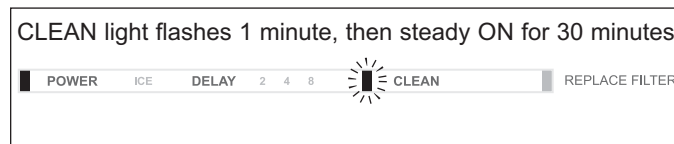
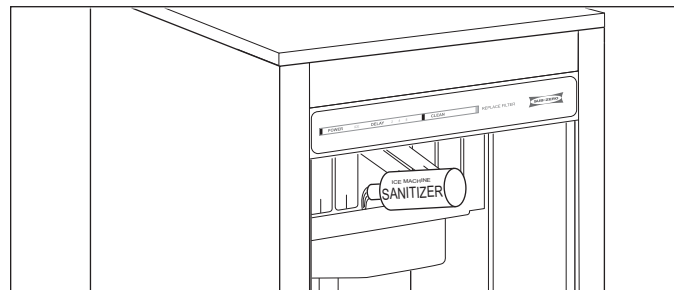

Figure 4-6. Clean Light Flashes = Add Sanitizer
Figure 4-7. Pour Cleaner Into Spray Area
4. Prepare 1 tablespoon (15 ml) of undiluted ice machine sanitizer (7013401 only) in a container that will fit easily under lifted paddles (See Figure 4-7).
3. Wait 3 minutes until CLEAN light flashes (See Figure 4-6), then add prepared sanitizer by lifting water paddles and pouring directly into spray area (See Figure 4-7). The ice machine automatically times out a 10 minute sanitize cycle, followed by 8 rinse cycles, then stops. The CLEAN light switches off to indicate the sanitize cycle is complete. This entire cycle lasts about 30 minutes.